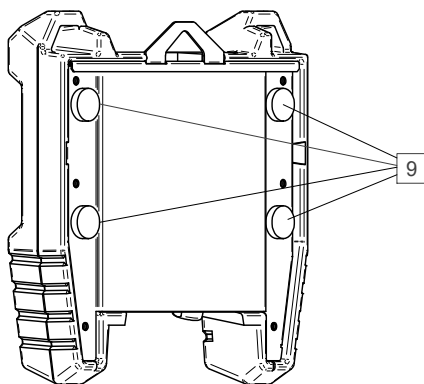

Figure 4
- Rubber feet with a magnet [9], which are used to attach the device to metal elements, e.g. to the front panel of the power source (Figures 4 and 5).